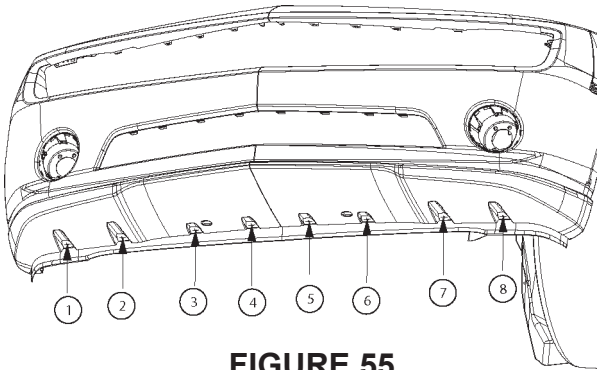

FIGURE 55
17. Use the 8 cross hairs on the rear edge of the cladding as a guide, drill 1/4" holes through the cladding & vehicle fascia. Refer to figure 55.